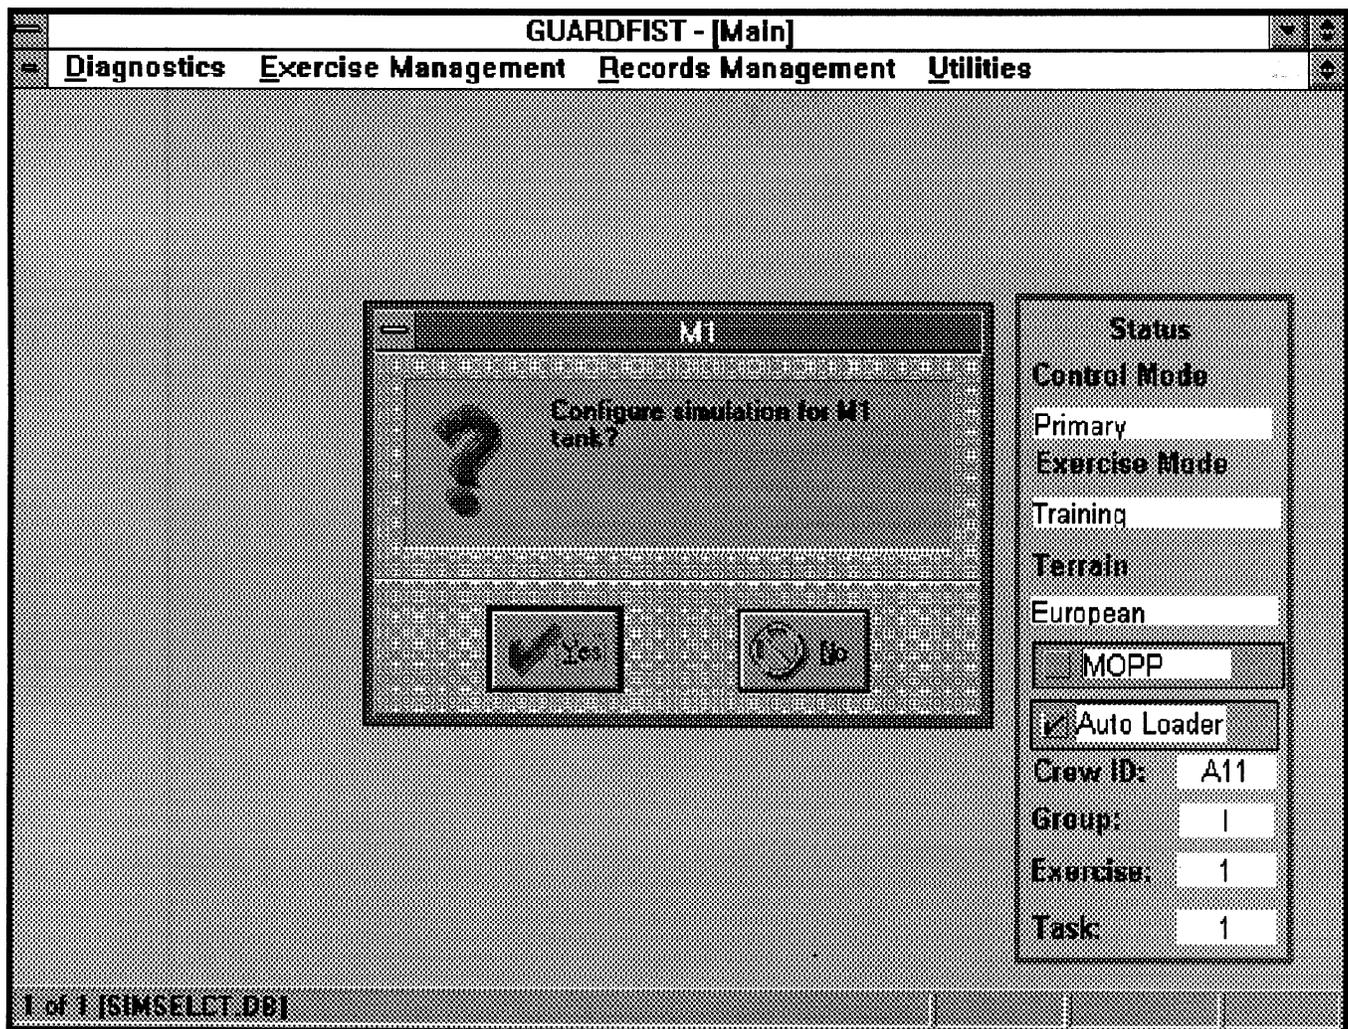

Figure 2-86. M1 Screen
2.6.5.1 **M1 Screen.** At the AFIST Main screen, select Tank Type Selection from the pull-down Utilities menu. The M1 screen, Figure 2-86, displays.